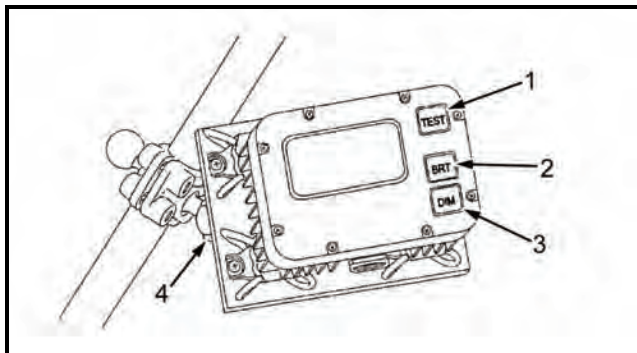

Figure 15-5. Gunner's display.
15-26. The GD (Figure 15-5) provides the gunner with the necessary information (deflection, elevation, check fire, and CFF commands) to aim and fire the mortar. It is mounted to the left center bipod leg. Function keys are used to start various displays that cover the gunner's functional needs for information, status, and reporting.
15-27. The Test key (1, Figure 15-5) initiates the internal built-in test (BIT) display.
15-28. The Bright (BRT) and Dim (DIM) keys (2 and 3, Figure 15-5) increase and decrease the brightness of the LCD.
15-29. The locking clamp (4, Figure 15-5) is used to allow movement of the GD from the mounting wall.